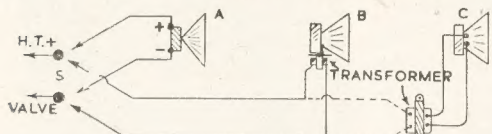

Fig. 1—How speakers should be connected
In Fig. 1 the usual two-speaker terminals or sockets of the set or amplifier are shown (marked S). Speaker (A) is the well-known moving-iron or balanced armature magnetic type. Such types are connected directly, as indicated, taking care to observe the polarity shown. This method of connection is also employed with ordinary headphones. Such speakers usually have a large adjusting screw, and this should be set for best results.